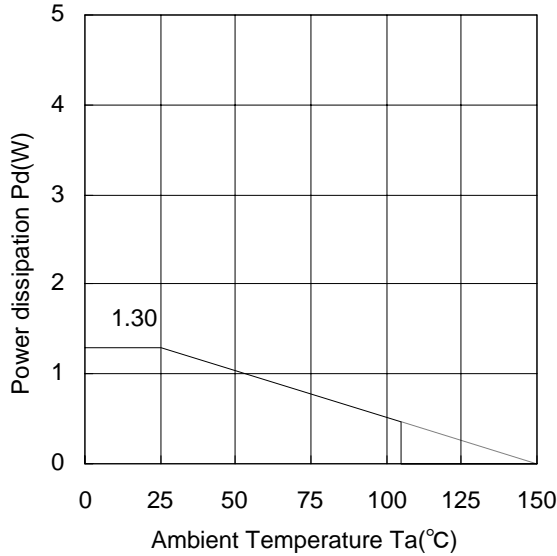
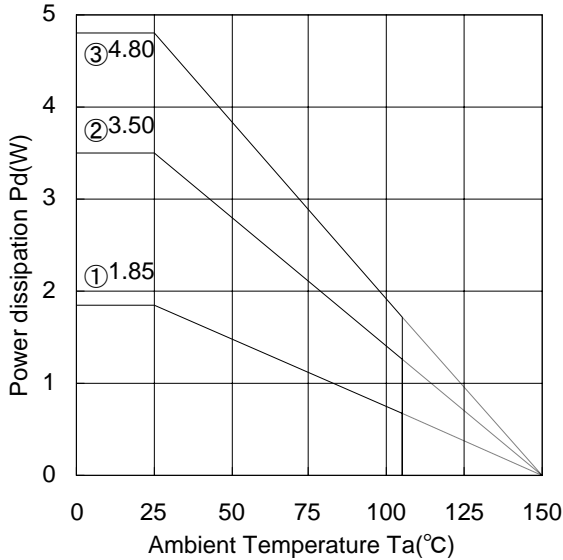
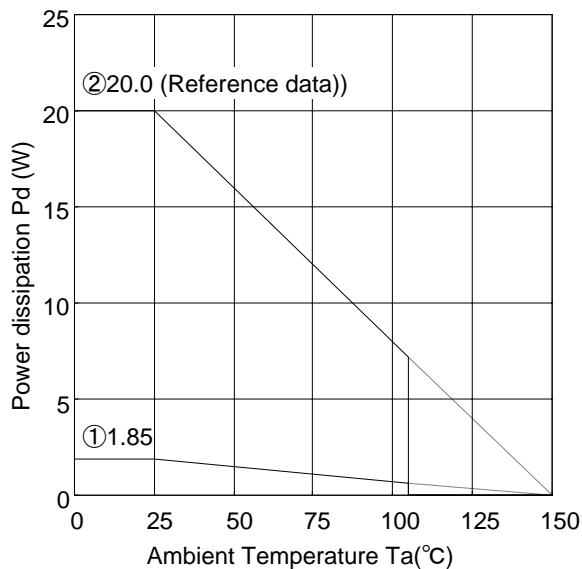

Figure 19.
Figure 20.
Figure 21.
When operating at temperature more than  $T_a=25^\circ\text{C}$ , please refer to the power dissipation characteristic curve shown in Figure 19 to Figure 21.
Figure 19 to Figure 21 show the acceptable power dissipation characteristic curves of TO252-5 package and TO220CP-V5 package. Even when the ambient temperature ( $T_a$ ) is at normal temperature ( $25^\circ\text{C}$ ), the chip junction temperature ( $T_j$ ) may be quite high so please operate the IC at temperatures less than the acceptable power dissipation.
The calculation method for power consumption  $P_c(W)$  is as follows : (Figure 20③ and Figure 21)
$$I_O \leq \frac{2.496 - 10 \times I_b}{5} \quad \left[ \begin{array}{l} \text{Figure 20③: } \theta_{ja}=26.0^\circ\text{C/W} \rightarrow -38.4\text{mW}/^\circ\text{C} \\ 25^\circ\text{C}=4.80\text{W} \rightarrow 85^\circ\text{C}=2.496\text{W} \end{array} \right]$$
$$I_O \leq \frac{10.4 - 25 \times I_b}{20} \quad \left[ \begin{array}{l} \text{Figure 21 (Aluminium heat dissipation board) } \theta_{ja}=6.3^\circ\text{C/W} \rightarrow -160\text{mW}/^\circ\text{C} \\ 25^\circ\text{C}=20\text{W} \rightarrow 85^\circ\text{C}=10.4\text{W} \end{array} \right]$$